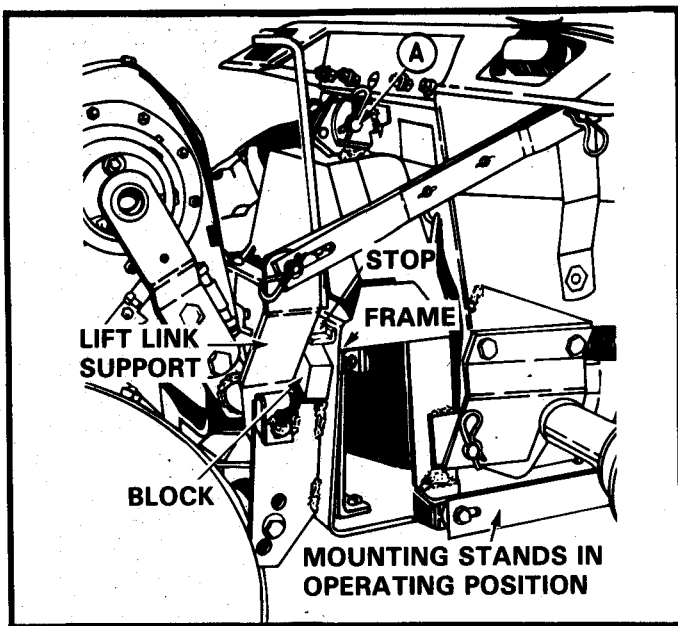

FIGURE 4
5. Place a small block of wood or similar object between the lift link support and the stop on the tiller frame, Figure 4. With the block used to aid in attaching the top of tiller mounting frame to the tractor, raise the tiller with the Lift Lever until the clevis pin can be installed at "A", Figure 4. Secure clevis pin with a hairpin cotter as shown. Move the Lift Lever to the down position and remove the block used to help raise the attachment.
6. Rotate the mounting stands completely forward as shown in Figure 4 and engage the locking pins in the slots provided in the mounting stand brackets.
14. After tiller is completely assembled and installed on the tractor, raise the tiller to the highest position with the Lift Lever. The lift link support should just clear the stop on the frame (approximately 1/16"). Refer to Figure 4. Support tiller securely. Loosen adjustment bolts. Lower the lift arms until the lift link can be adjusted the amount needed to set the proper clearance and tighten bolts securely.
2. Place a small block or similar object between the lift link support and the stop on the tiller frame, Figure 4. With the block used to aid in removing the top of tiller mounting frame from the tractor, raise the tiller with the Lift Lever until the clevis pin can be removed at "A", Figure 4. Remove clevis pin and hairpin cotter as shown. Move the Lift Lever to the down position and remove the block used to help raise the attachment.